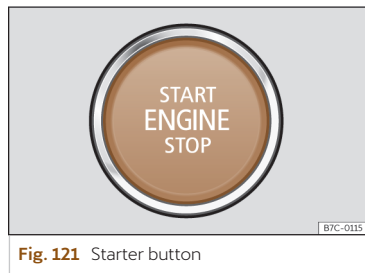

Fig. 121 Starter button
When entering the vehicle, the start button >>> **Fig. 121** flashes to draw attention to it.
• Press the start button >>> **Fig. 121** without pressing the accelerator. There must be a valid key in the vehicle for the engine to start.
- Briefly press the start button >>> **Fig. 121.**